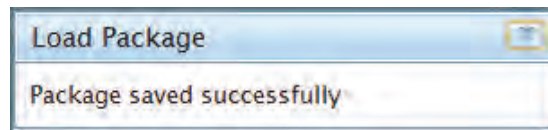

Figure 5-11. Load Package Success Message
- Wait until the **Load Package** prompt message indicates that the package was successfully saved to the remote. See Figure 5-11.